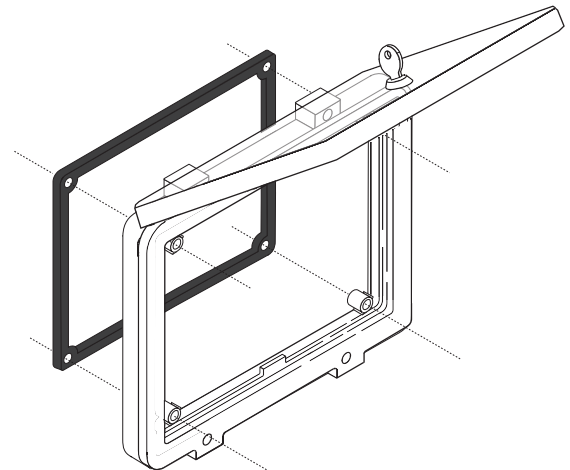

Figure 2: Affixing Gasket to Assembly
2. Remove the paper backing from the adhesive gasket. Align the gasket holes with the assembly mounting holes. Press the gasket onto the back of the protector assembly. Refer to Figure 2.